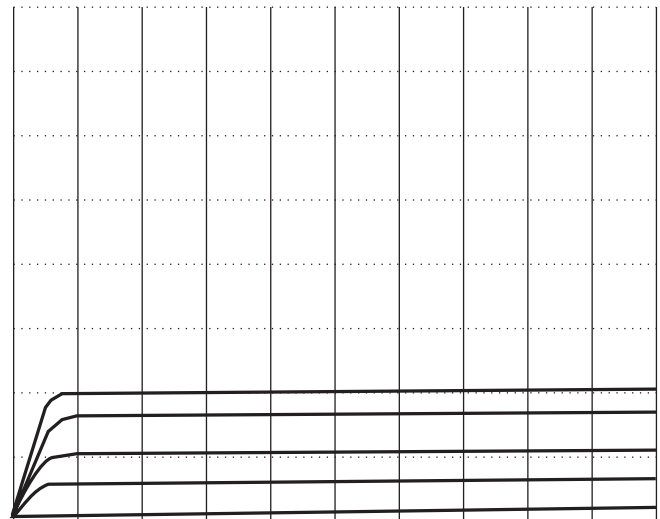

Figure 3
After power on the base current is preset to minimum value. (**Figure 3**). After activating function MAX or MIN the position of the curves can be adjusted within 3 ranges. Thereby an additional offset has to be considered in every range. The offset amounts a half step. Continuous passing through the ranges from the lowest to the highest is possible if the rotary knob ⑧ is turned clockwise. A skip from step 127 to step 128 involves a change of range. The first 5 steps of the new range are equal to the last 5 steps of the last range. When changing the ranges the base current is multiplied by 10. It has to be considered that range 3 ( $10\text{ mA}$  base current) cannot be reached if the collector current is limited to  $2\text{ mA}$  by keys  $I_{max}$  ⑩.
As soon as the HM6042 is switched on, a baseline is visible at the CTR screen as long as no DUT is inserted. If a bipolar transistor is connected and the measurement is started by pressing DUT ⑭ a more or less diversified set of characteristics is displayed. **Figure 3** shows how a typical display may look with these basic settings selected. If e.g. a NPN